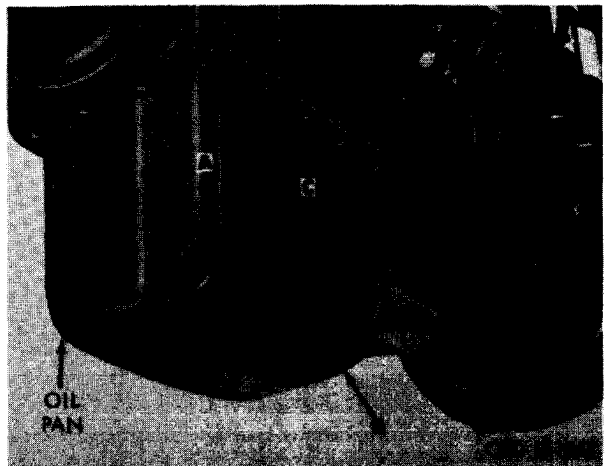

FIGURE 199. REMOVING OR INSTALLING OIL PAN.
- (2) Figure 199. (A) Remove twenty-seven 3/8 xl-inch cap screws and 3/8-inch lock washers securing oil pan to cylinder and crankcase. (B) Remove oil pan. (C) Remove and discard oil pan gasket.